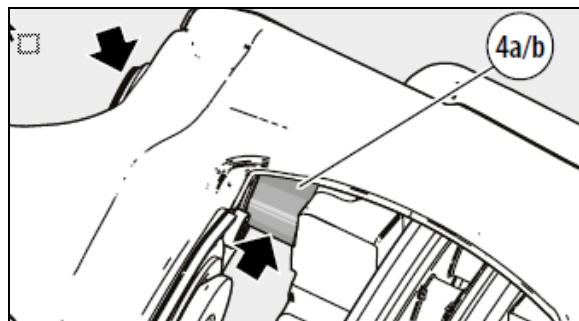

FIGURE 41: FREE GUIDE PIN OF DIRT
5. Push caliper inboard towards vehicle's center (see Figure 41).